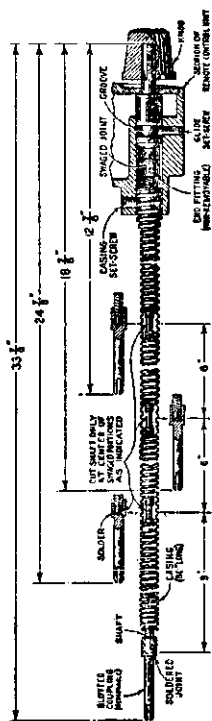

Figure 3
**Flexible Shaft**—Insert that end of the flexible shaft to which is attached the slotted coupling through the bushed opening in the left side of the receiver unit. Then rotate the shaft from the free end until the coupling slot is felt to engage over the pin contained in the tuning mechanism and slide the shaft forward to the full depth of the slot. With the shaft held in this position, insert the opposite end of the shaft through the bushing at the rear of the remote control unit and push forward until the slotted portion of the shaft protrudes through the front cover. Then proceed to tighten the external set-screw (located at the bottom of the case—see Figure 3) adjusting the shaft position as necessary until the screw is felt to engage in the groove. Tighten the screw fully to the bottom of the slot and then loosen it approximately one-quarter of a turn. Finally, secure the flexible casing in place by tightening the set-screws at each end.
**NOTE**—In many installations it will be found necessary or desirable to use a flexible shaft of shorter length than 33 3/8 inches. While it is simplest to procure a shaft of proper length from the dealer as mentioned heretofore, very little difficulty should be experienced in shortening the original part if deemed expedient. To shorten the shaft, refer to Figure 3 and proceed as follows: